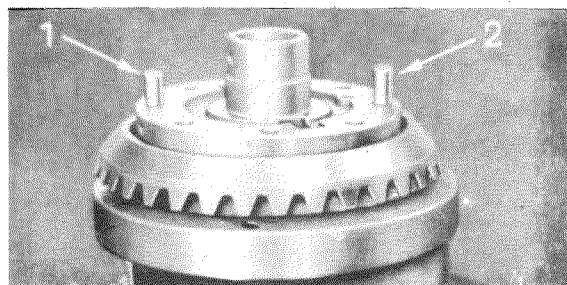

Fig. 35 — 4/49
Then heat the ring gear to approx. 60—70° C. and put it on the differential housing, using the two guide bolts (1) and (2) (Fig. 35 — 4/49).